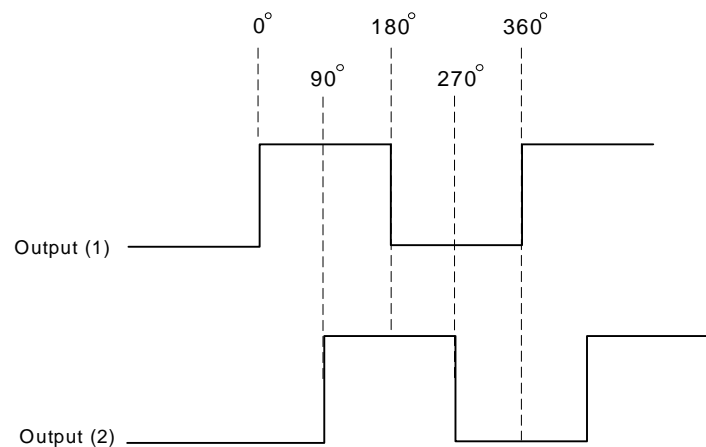

Figure 6: Two-Channel Quadrature Signals 90° Phase Shift
- Quadrature – Quadrature signals are configured for speed and direction. Sensor wiring is across TB2, 7 and 8. Rate information is provided by a two-channel quadrature pulse generator with a 90° phase shift between the signals, as shown in Figure 6.